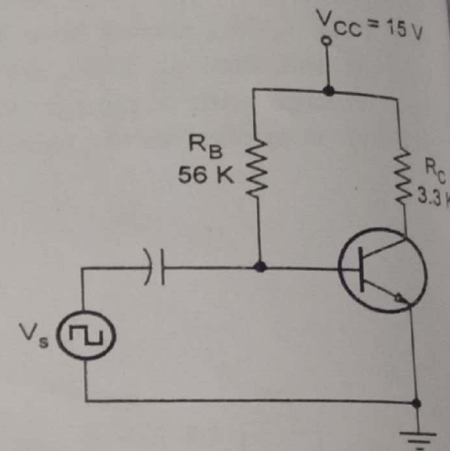

Fig. Q.76.1
Q.76 Calculate the minimum h_{FE} required for transistor to operate as a switch shown in Fig. Q.76.1. (See Fig. Q.76.1 on next page)